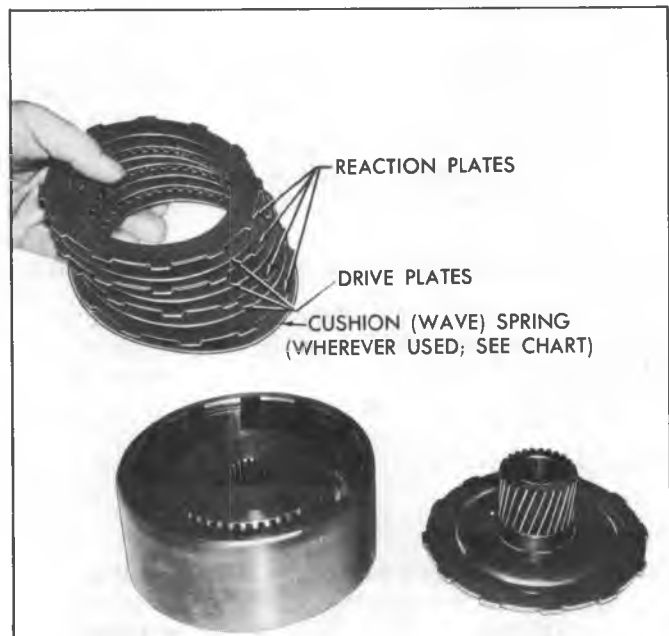

Fig. 22PG—Installing Clutch Drum Plates (typical)
7. Install the steel reaction plates and faced drive plates alternately, beginning with a steel reaction plate (fig. 22PG). See clutch chart.